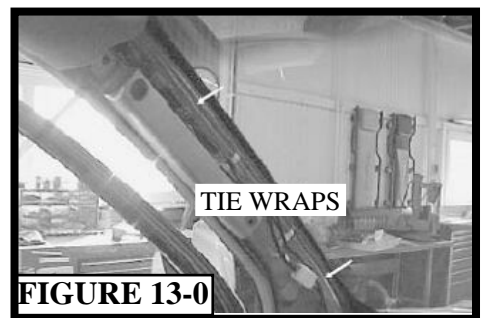

FIGURE 13-0
- (b). Route yellow accessory wire along factory harness, securing with factory harness clips, to a-pillar. Tie strap to factory harness with (2) tie straps. (FIGURE 13-0)